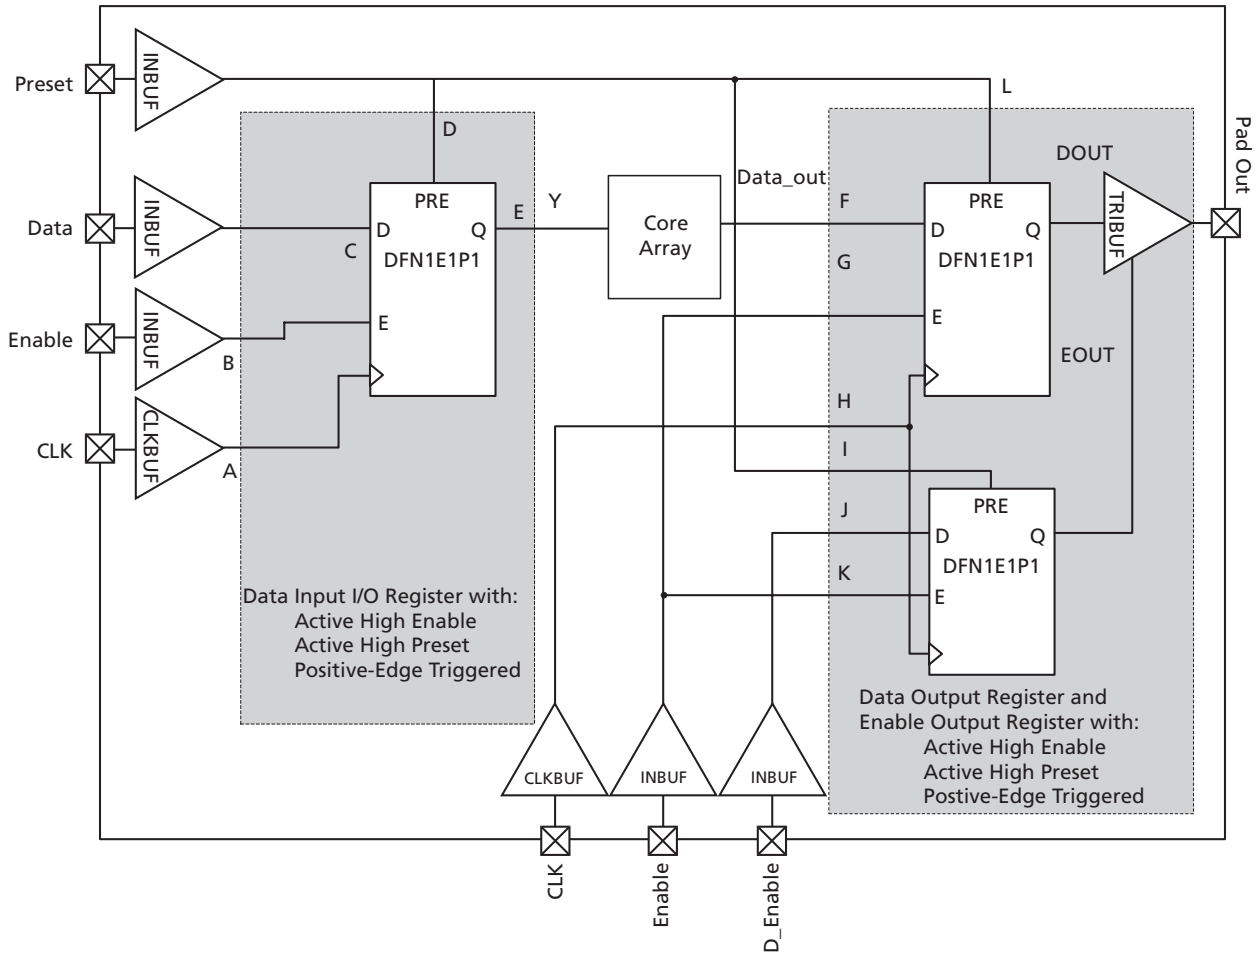

Figure 2-14 • Timing Model of Registered I/O Buffers with Synchronous Enable and Asynchronous Preset
* See Figure 2-14 on page 2-62 for more information.